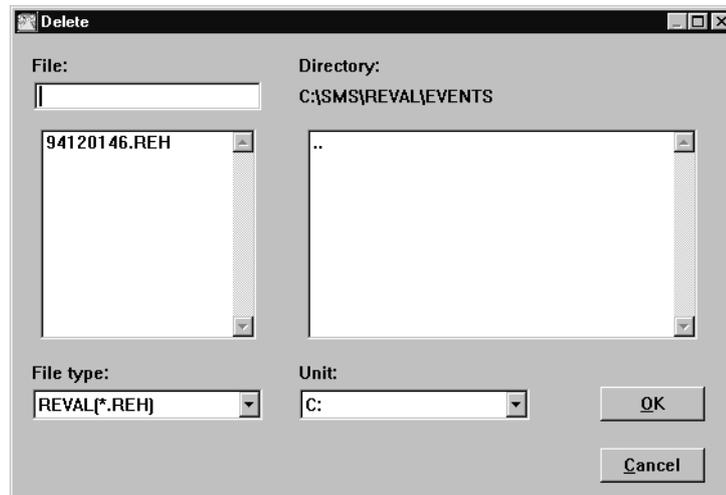

Fig. 22 The delete dialogue box.
- 1 Select Delete to present a dialogue box, see Fig. 22, in which the desired disturbance can be deleted. When OK is pressed, a warning box is shown.